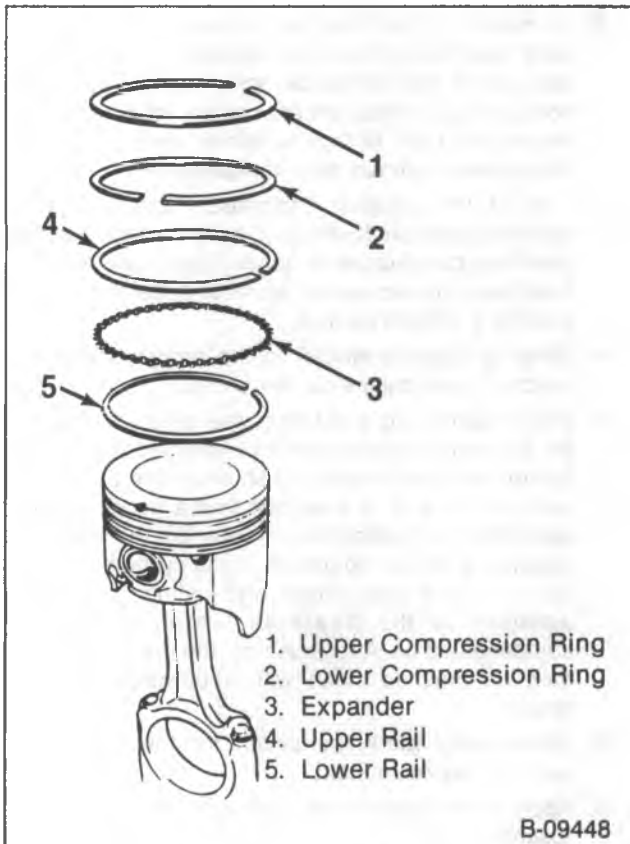

Figure 4—Piston Rings
**Remove or Disconnect (Figures 4, 5 and 6)**